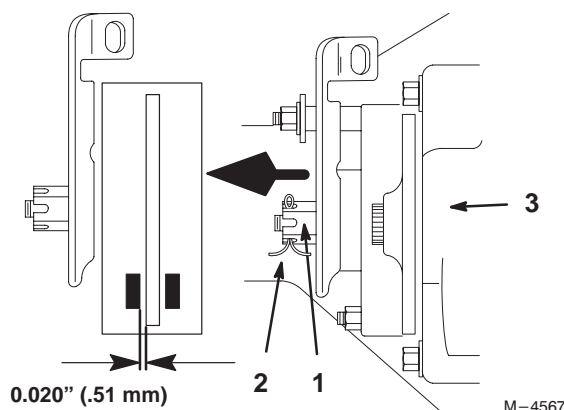

Figure 28
3. To adjust the brake remove the cotter pin and loosen the brake adjusting nut slightly (Fig. 28).
4. Carefully insert a 0.020" (.51 mm) feeler gauge between the outer brake pad and rotor disk (Fig. 28).